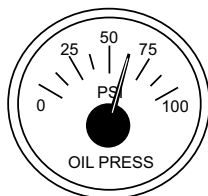

Figure 43. Oil Pressure Gauge
7. The engine oil pressure gauge (Figure 43) will indicate the oil pressure of the engine. Under normal operating conditions the oil pressure is approximately 42 to 86 psi. (290~590 kPa).